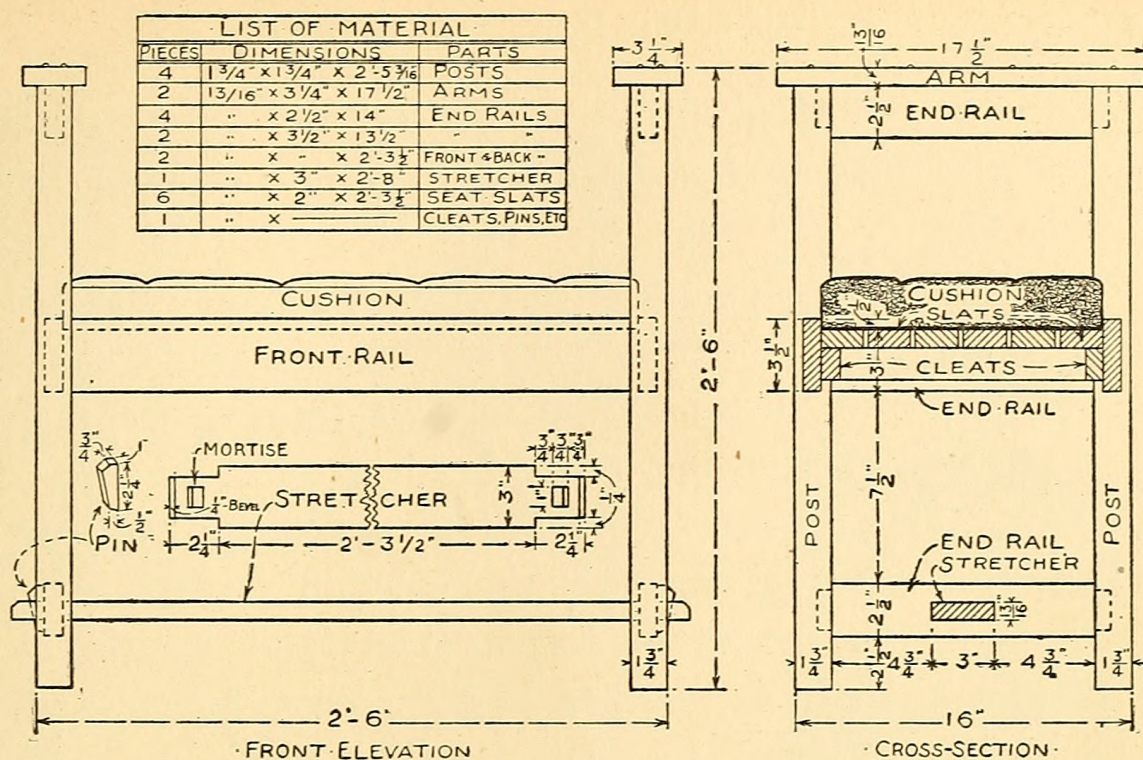

FIG. 143. — Details of Roman Chair shown in Fig. 139.
**A Roman Chair** such as is shown in Fig. 139 makes a pretty seat for a hall or reception-room. First prepare the four corner posts and the end rails (Fig. 143), and cut mortises in the posts  $\frac{3}{4}$  inch deep to receive the ends of the rails, then prepare the front and rear rails as shown and make mortises in the posts  $\frac{1}{2}$  inch deep to receive them. Next cut the stretcher as it is detailed in the plan, mortise the lower end rails for its ends to run through, and prepare pins to fit the stretcher's mortises. Read the instructions given upon page 117 for marking, fitting together, and gluing the mor-